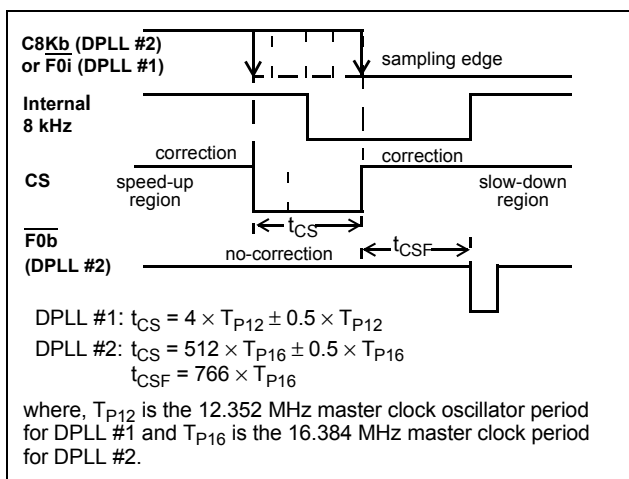

Figure 4 - Phase Comparison
As shown in Figure 4, the falling edge of the 8 kHz input signal (C8Kb for DPLL #2 or $\overline{F0i}$ for DPLL # 1) is used to sample the internally generated 8 kHz clock and the correction signal (CS) once in every frame (125 μ s). If the sampled CS is "1", then the DPLL makes a speed-up or slow-down correction depending upon the sampled value of the internal 8 kHz signal. A sampled "0" or "1" causes the frequency correction circuit to respectively stretch or shrink the master clock by half a period at one instant in the frame. If the sampled CS is "0", then the DPLL makes no correction on the master clock input. Note that since the internal 8 kHz signal and the CS signal are derived from the master clock, a correction will cause both clocks to stretch or shrink simultaneously by an amount equal to half the period of the master clock.
The no-correction window size is 324 ns for DPLL #1 and 32 μ s for DPLL #2. It is possible for the relative phase of the reference signal to swing inside the no-correction window depending on its jitter and the relative drift of the master clock. As a result, the phase relationship between the input signal and the output clocks (and frame pulse in case of DPLL #2) may vary up to a maximum of window size. This situation is illustrated in Figure 4. The maximum phase variation for DPLL #1 is 324 ns and for DPLL #2 it is 32 μ s. However, this phase difference can be absorbed by the input jitter buffer of Mitel's T1/CEPT devices.